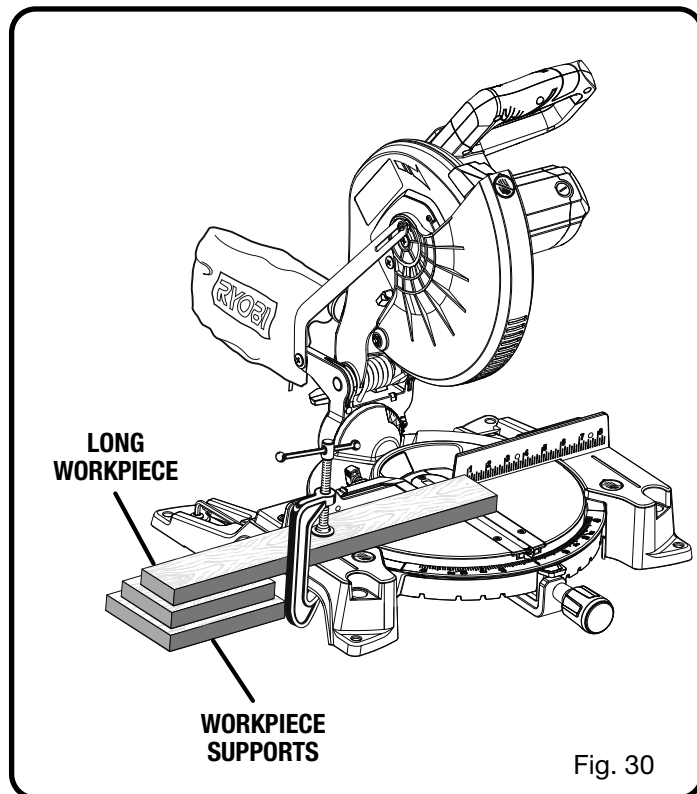

Fig. 30
- When cutting long pieces of lumber or molding, support the opposite end of the stock with a roller stand or with a work surface level with the miter table. See Figure 30.
See Figure 30.